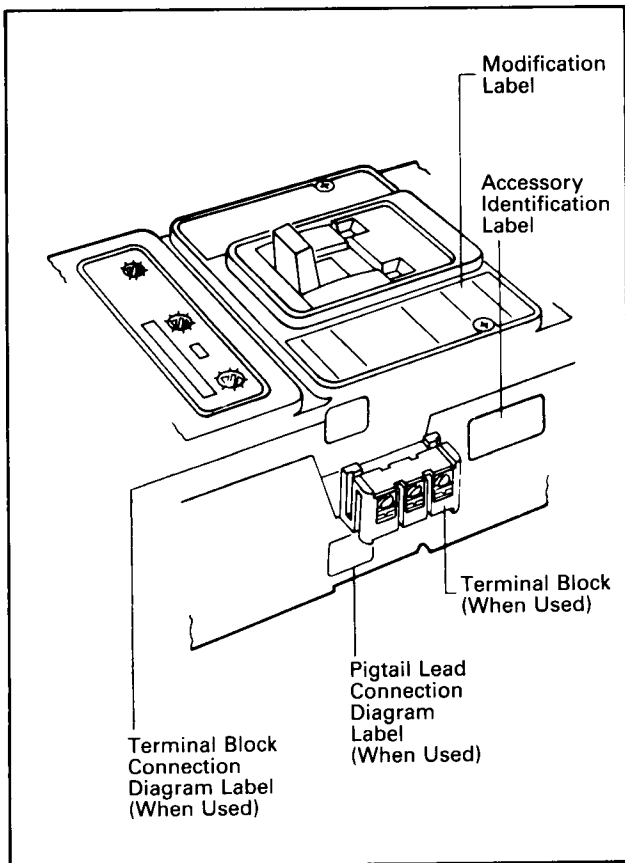

Fig. 2-8. Preferred Mounting Locations for Accessory Nameplate Labels
- 2-15. Place accessory labels (supplied with kit) on circuit breaker. (See Fig. 2-8.)